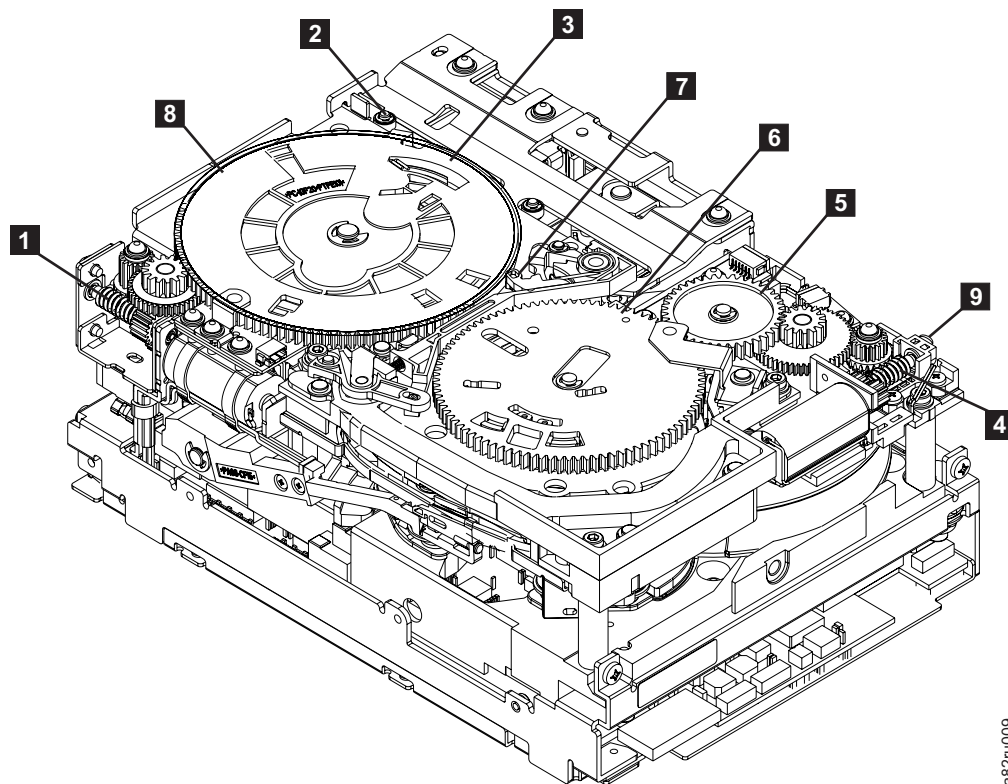
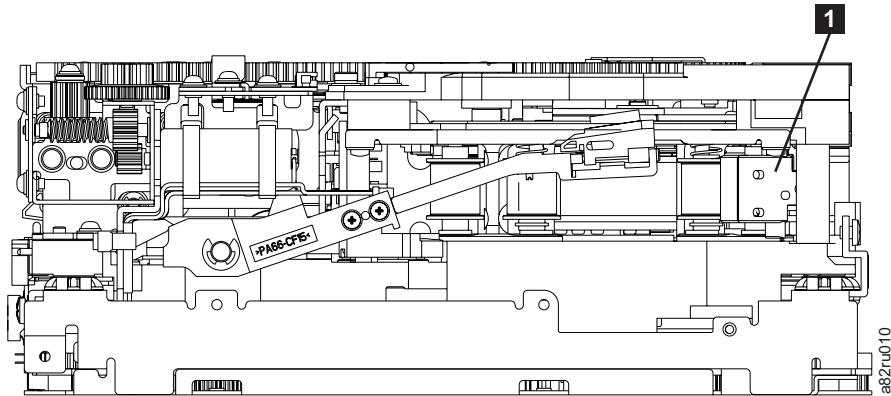

Figure 8-128. Drive with cover removed to reveal gear train.
Figure 8-129. Leader Block Assembly (LBA)
6. Locate the threader motor worm gear (**4** in Figure 8-128 on page 8-121) on the rear of the drive. You can either:
- a. Use your finger to rotate the threader motor worm gear and slowly rotate the threader mechanism gear (**6** in Figure 8-128 on page 8-121) clockwise; OR
- b. Use a #1 flathead screwdriver to turn the worm gear (**9** in Figure 8-128 on page 8-121) clockwise.
This rotates the threader motor worm gear (**4** in Figure 8-128 on page 8-121) clockwise, drawing the LBA into the cartridge.
7. As the tape leader block assembly (LBA) is secured in the cartridge, you should hear the LBA retention spring clips click into place. If you do not hear the click, continue rolling until the threader motor worm gear (**4** in Figure 8-128) stops. The LBA is in the correct position.
- a. Loader mechanism gear (**6** in Figure 8-128) nearest the front of the drive that actuates the cartridge loader mechanism.
- b. Position of the rotate stub (**3** in Figure 8-128).
- c. Front loader motor worm gear (**1** in Figure 8-128). Rotating this gear allows the loader mechanism gear (**8** in Figure 8-128) to turn.
9. Rotate the loader motor worm gear (**1** in Figure 8-128) to turn the threader mechanism gear (**6** in Figure 8-128) counterclockwise. Continue turning until the rotator stub (**3** in Figure 8-128) loses contact with the lever (**7** in Figure 8-128). This releases the LBA leader pin.
10. Rotate the threader motor worm gear (**4** in Figure 8-128 on page 8-121) to turn the threader mechanism gear (**6** in Figure 8-128 on page 8-121) counterclockwise. This moves the LBA out of the cartridge and past the read/write head. Stop this rotation when the LBA is near the tape guide roller nearest the rear of the drive shown as **1** Figure 8-129.
11. Continue rotating the loader motor worm gear (**1** in Figure 8-128 on page 8-121) until the rotator stub (**3** in Figure 8-128 on page 8-121) is positioned as shown. Notice that the rotator stub (**3** in Figure 8-128 on page 8-121) is nearly aligned with the cartridge loader tray guide bearing (**2** in Figure 8-128 on page 8-121).